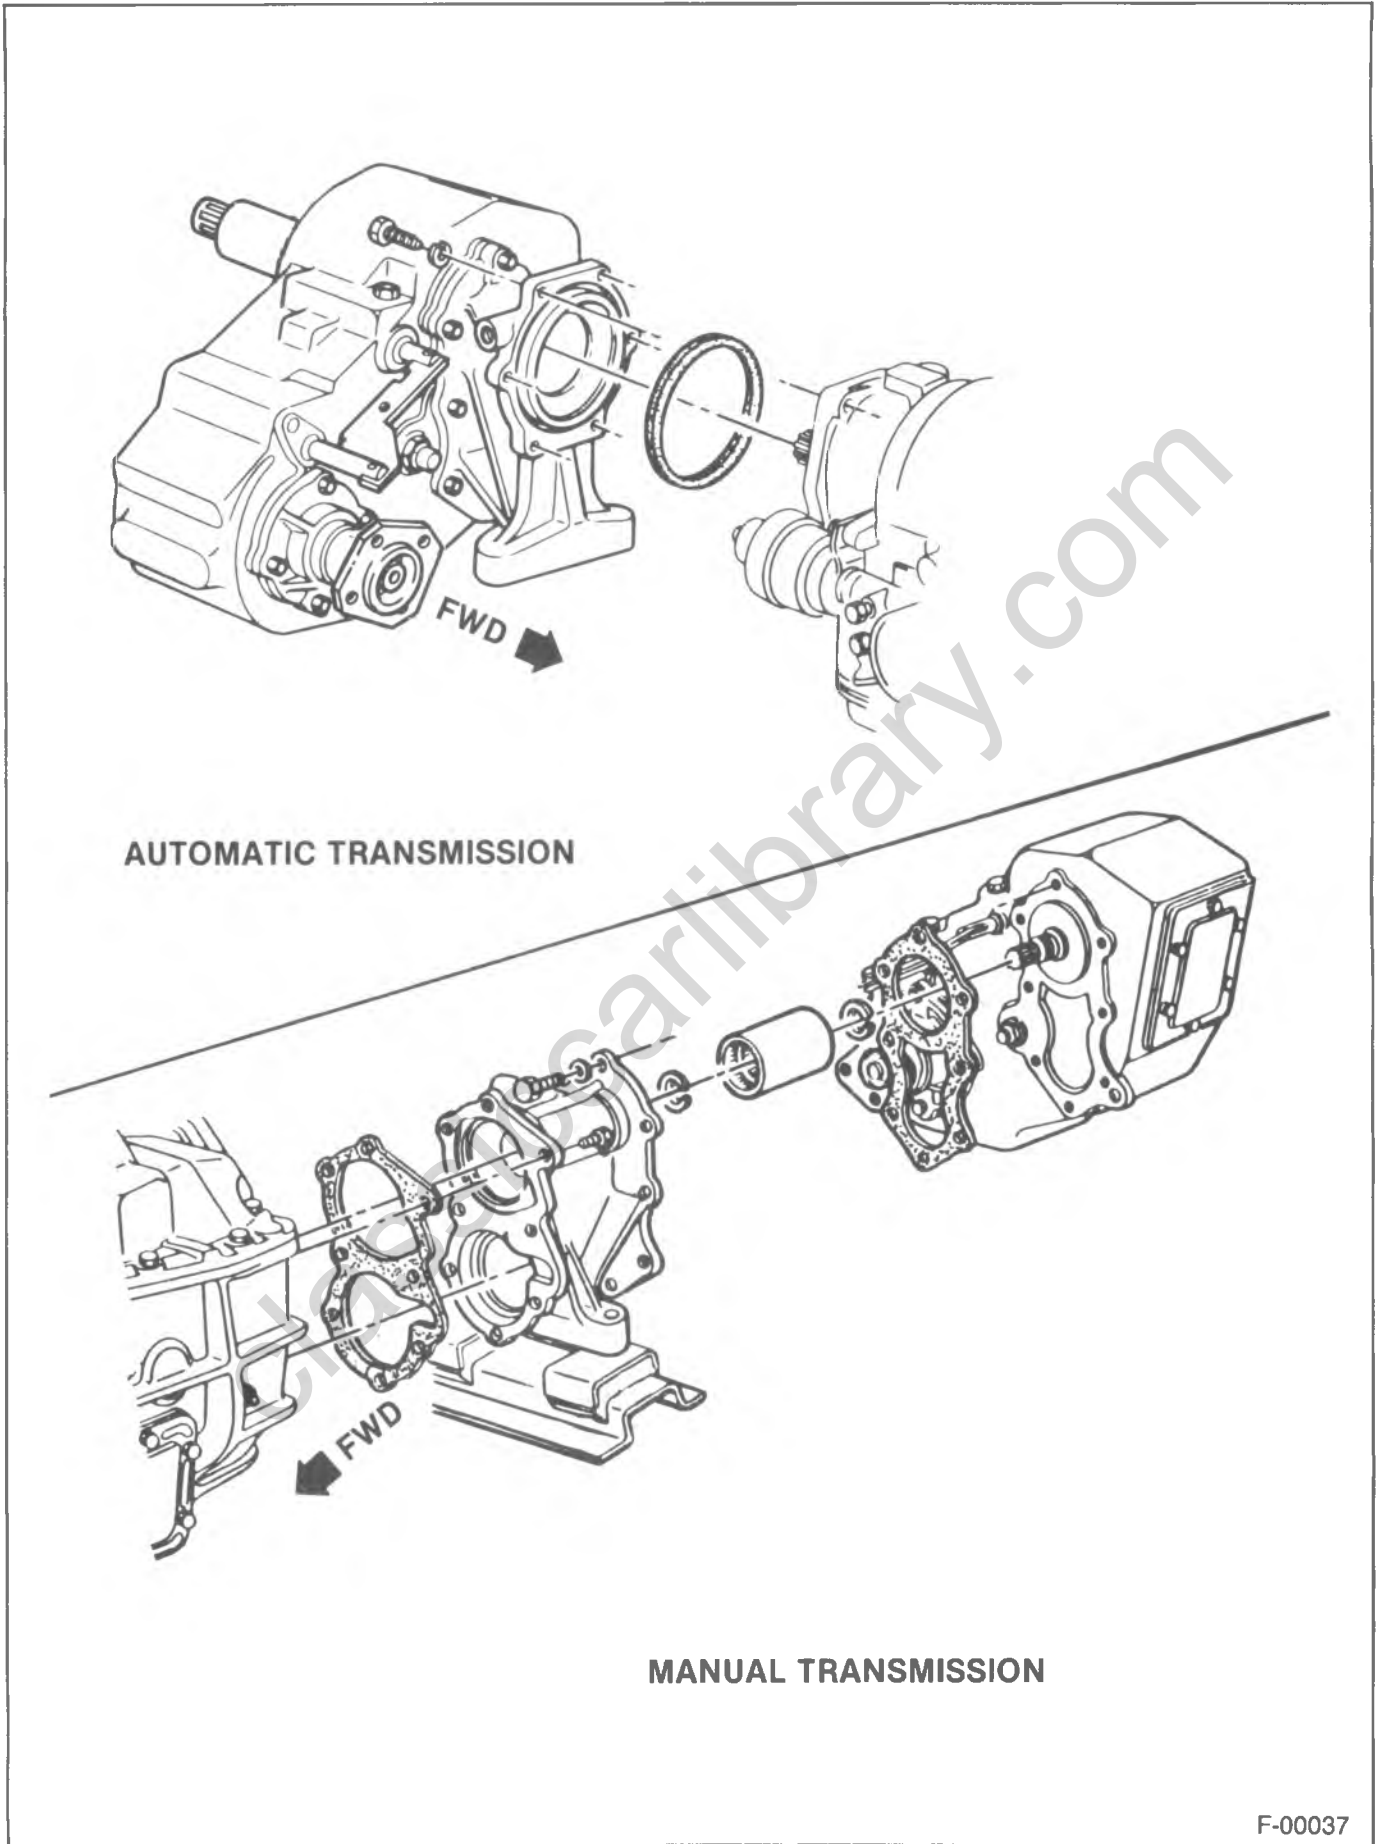

Figure 6—Transmission Adapters
- 6. Bolts attaching the transfer case to the transmission adapter (figure 6).
- 1. Bolts attaching the case to the adapter (figure 6).